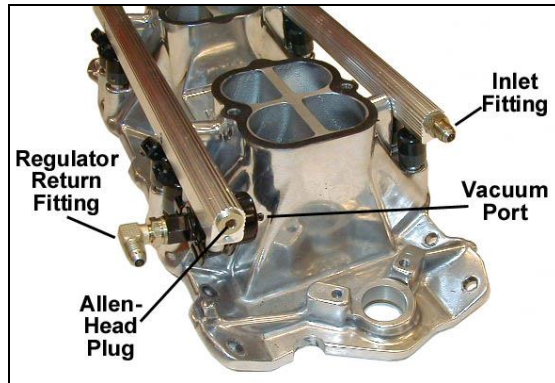

Figure 1
2. Install the fuel pressure regulator to the driver's side (long) fuel rail. Put a light amount of Vaseline or petroleum motor oil on the regulator o-ring before installing it in the fuel rail. Use the 2 aluminum spacers and 2 flat-head Allen screws (provided) to install the regulator. The regulator will be at the end of the rail on the driver's side. The regulator outlet will face the outside of the engine. Tighten the screws securely. See Fig. 1.